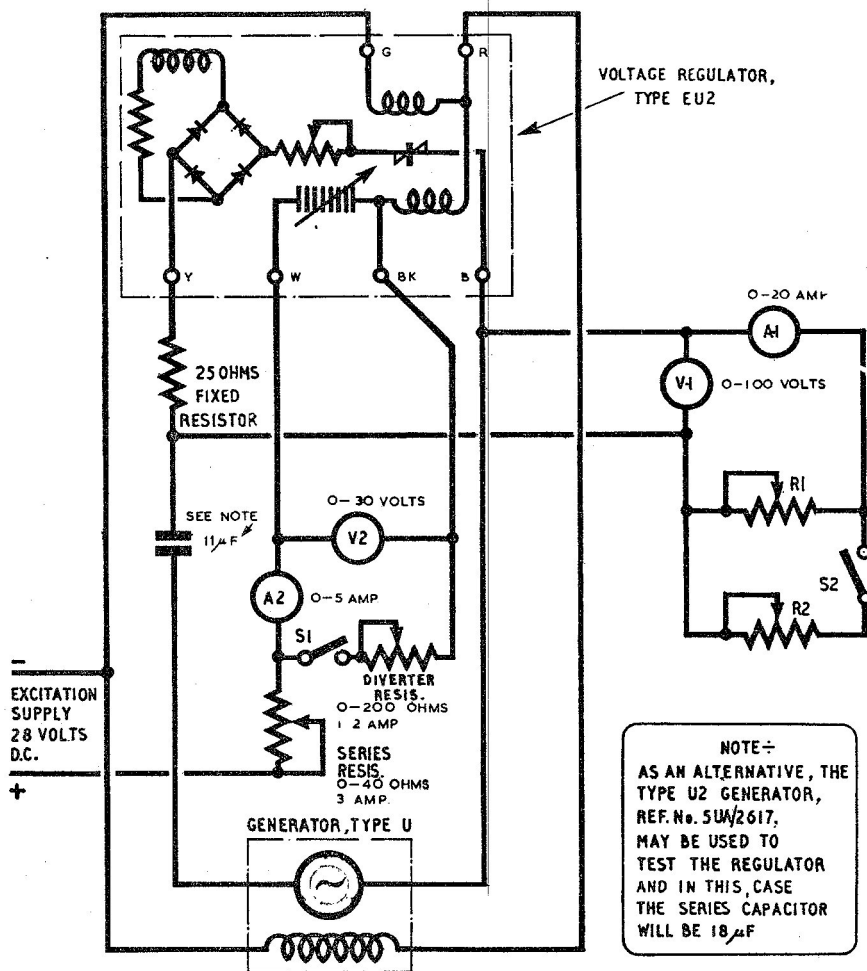

Fig. 2. Test circuit diagram
5. Connect the regulator in the test circuit as shown in fig. 2, the generator used being a Type U (Stores Ref. 5UA/349) or Type U2
14. The full tests are not necessary for a new regulator. It can be tested as follows, by connecting it in the test circuit as shown in fig. 2, but without the series and diverter resistors and without meters A2 and V2.